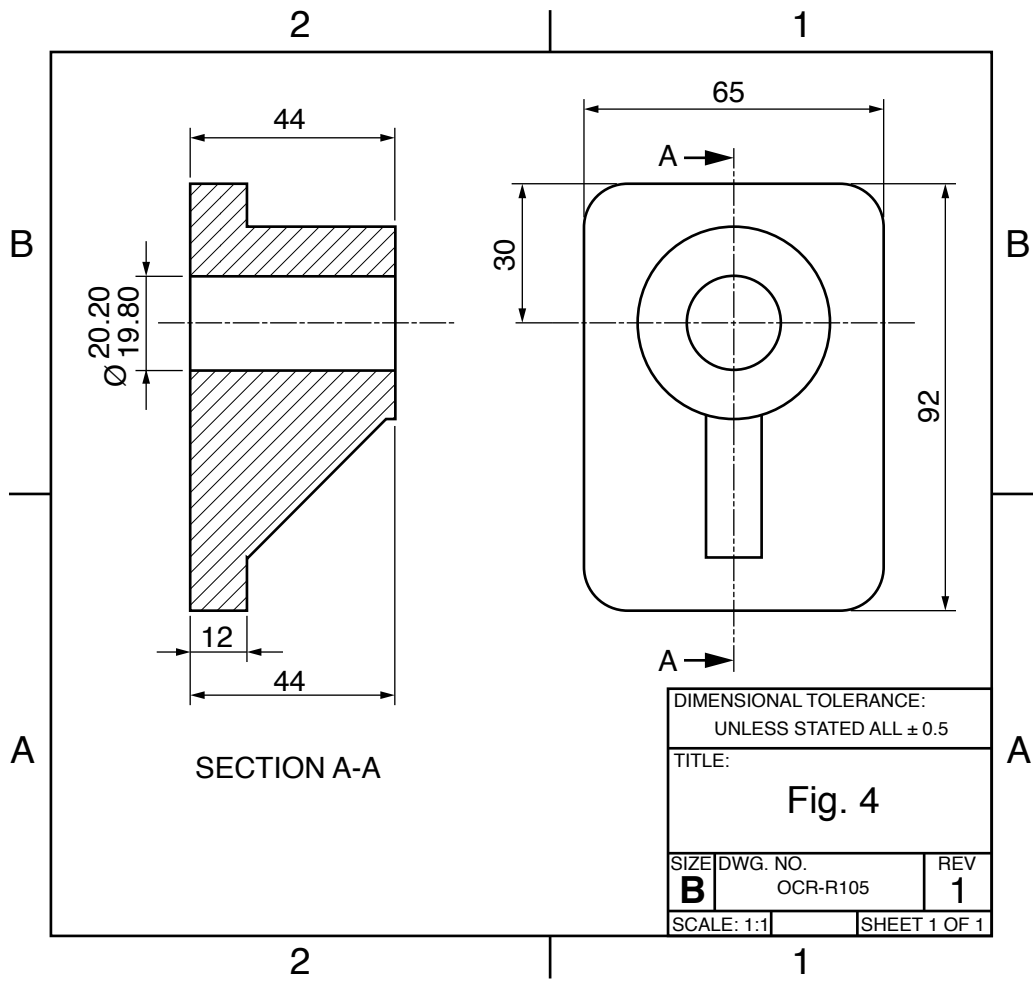

Fig. 4
6 Fig. 4 shows an engineering drawing of a component.
- (a) (i) Label the drawing in Fig. 4 to identify where a specific tolerance is shown. [1]